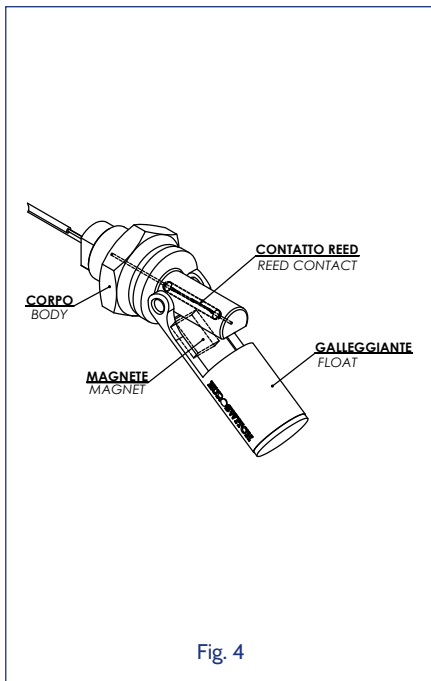

Fig. 4
*Figure 4 shows the components of an electromagnetic level gauge with a rocking float that operates horizontally.*